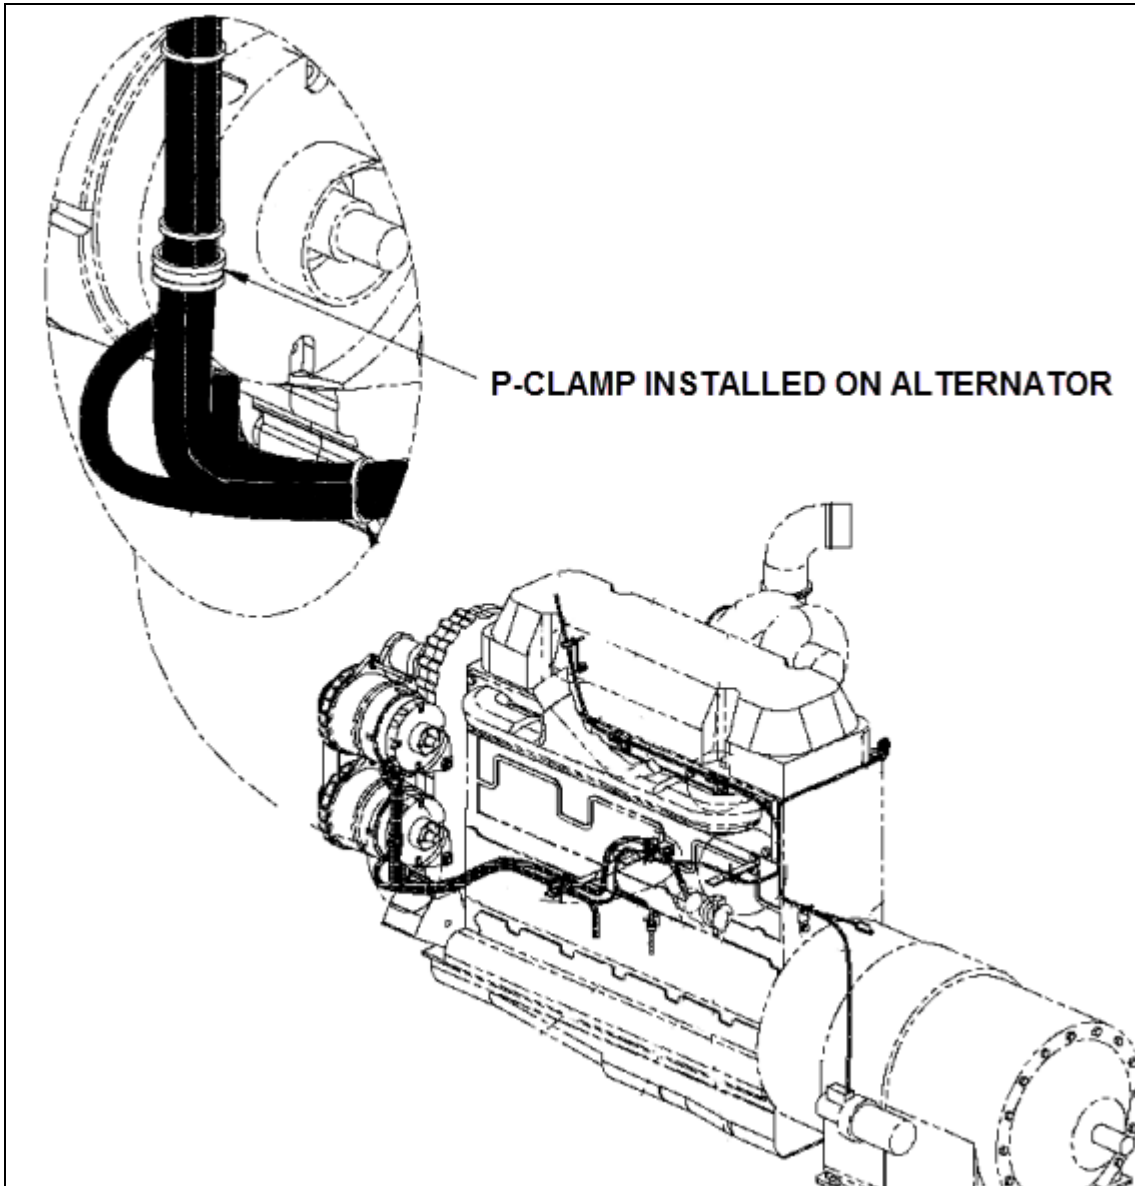

Fig.3 Details of the P-Clamp installation on the lower BOSCH T1 alternator
2. Access the rear of the alternators and check for P-clamps fixed directly to the back of the alternator bodies (Fig.3 and 4).
NOTE: In the majority of the vehicles affected by the problem, the P-clamp will be positioned on the top left corner (viewed from the back of the alternators) of the lower alternator (Fig.3 and 5) Nevertheless, inspect both alternators.